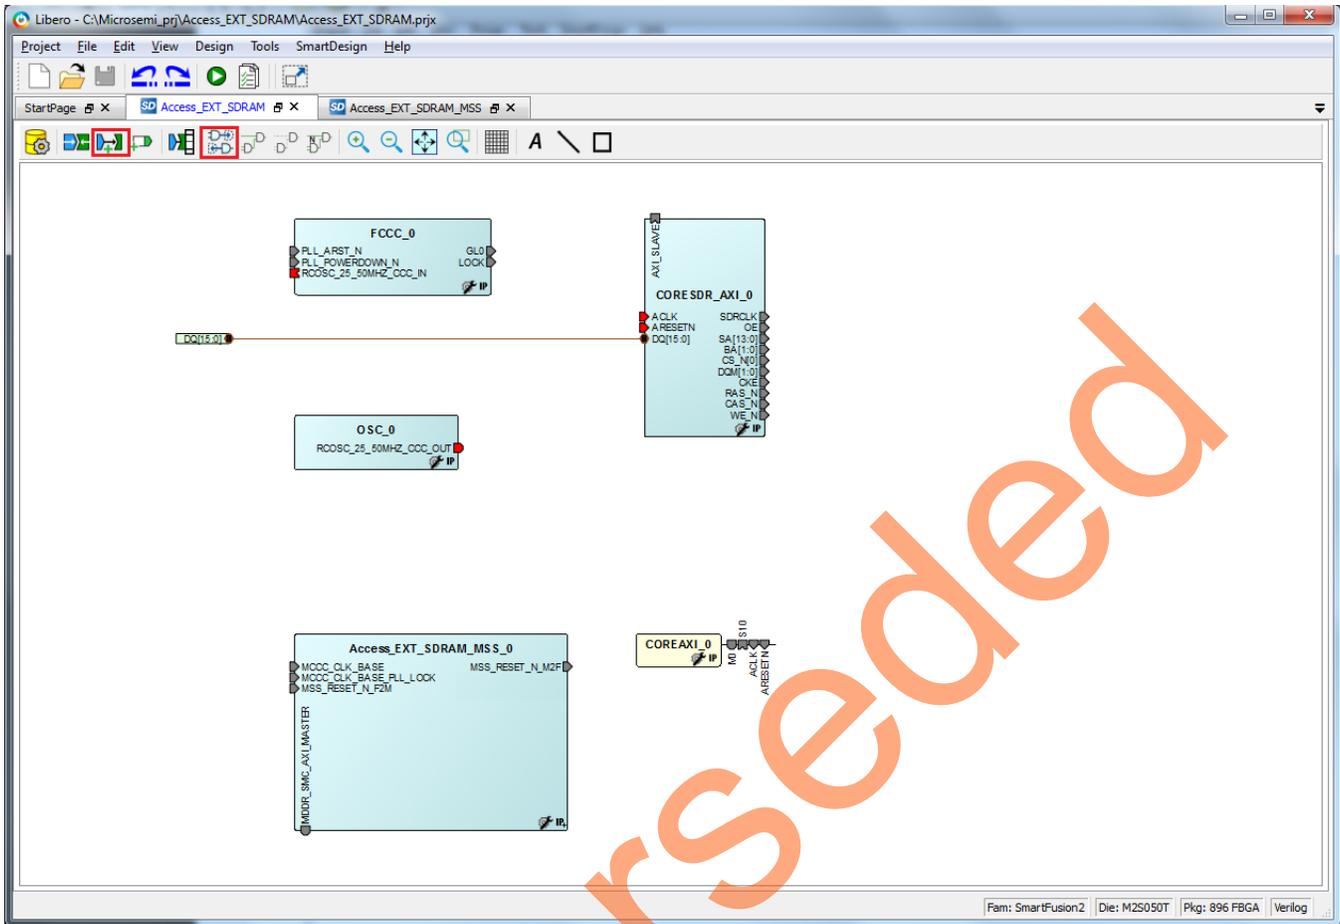

Figure 23. Changing to Connection Mode
- The first method is by using the Connection Mode option. Change the SmartDesign to connection mode by clicking the **Connection Mode** button on the **SmartDesign** window, as shown in Figure 23. The cursor changes from the normal arrow shape to the connection mode icon shape. Click on the first pin and drag-drop to the second pin that needs to be connected.